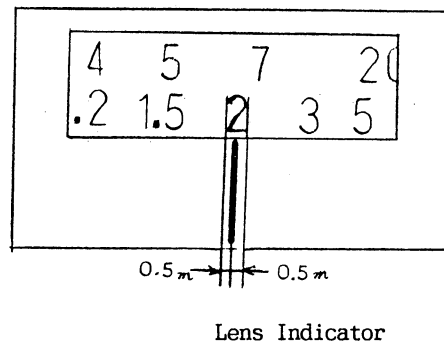

Fig.109
- ① Turn on the Main Switch.
- ② Place a hand before the lens, and set the lens in the infinity position by pressing the release button.
- ③ Press the release button halfway and make certain that the lens stops at 2.0m position on focus scale and the sharp focus mark lights up in the viewfinder.
- ④ Repeat the operation of ② and ③ several times. If the lens is within the following allowable range, the AF adjustment is complete. (See Fig. 109)